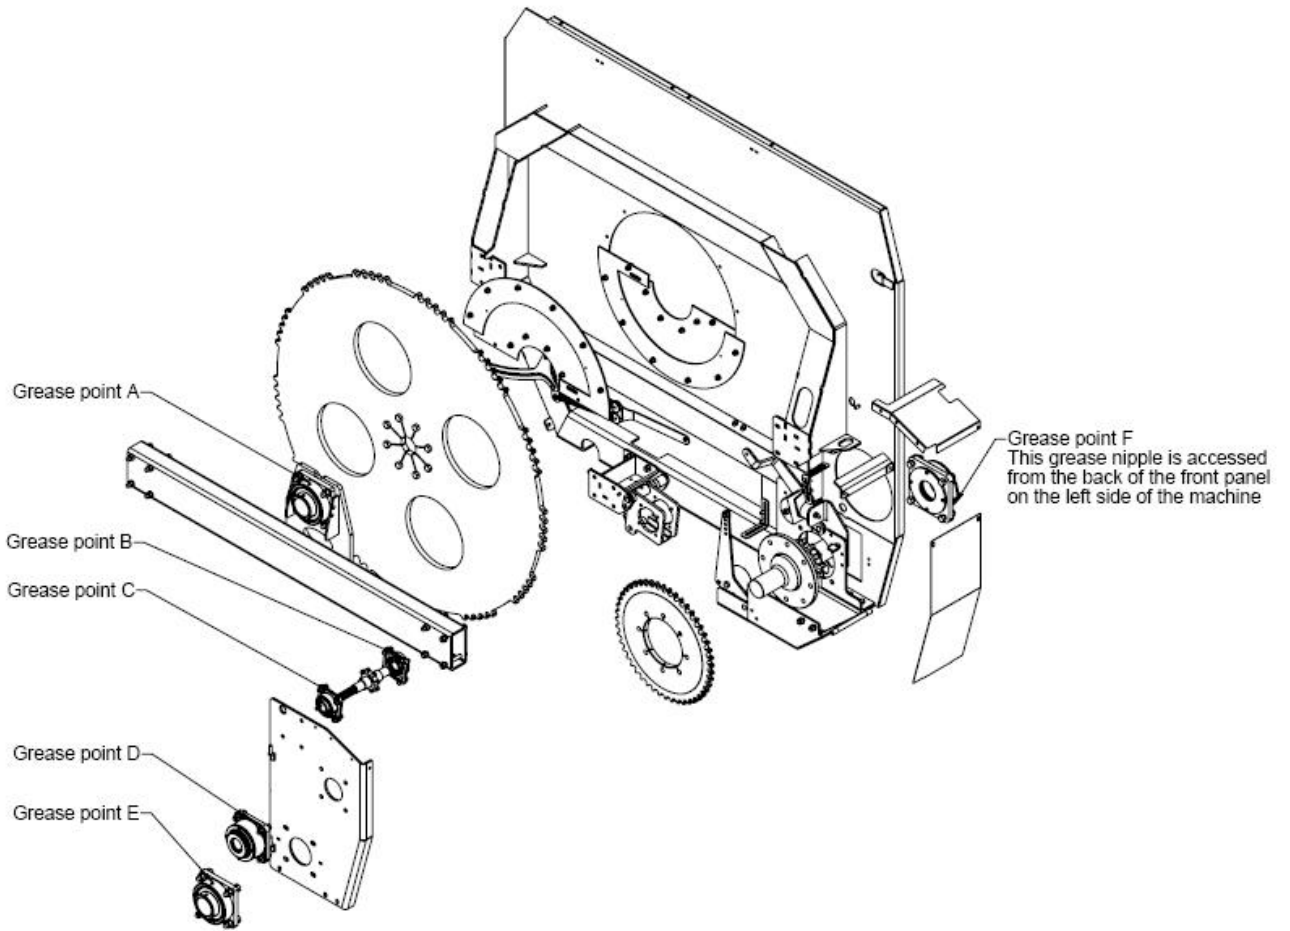

Figure 9. Front grease points
- a. The main rotor bearing at the front of the Keenan 160 (A figure 9).
- b. Two main bearings on the front and rear of the input drive shaft (B & C figure 9).
- c. The auger bearing at the front of the Keenan 160 (D figure 9)
- d. The bearings on the front and rear of the idler shaft (E & F figure 9)